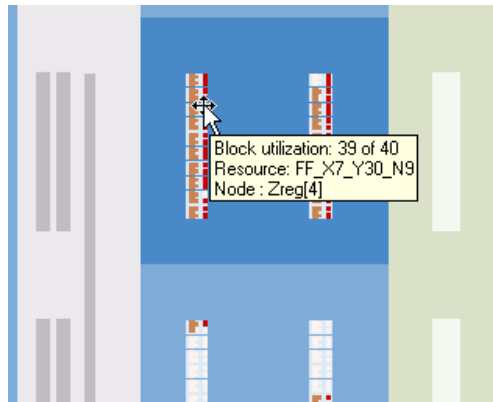

Figure 23: A portion of the expanded view.
6. A Zoom Tool, activated by the icon , can be used to enlarge parts of the image even more. Figure 23 shows a zoomed-in view of the floorplan that highlights the implemented circuit. By positioning the cursor on any logic element the designer can see what part of the circuit is implemented in this resource. The chip planner tool has several icons that can be used to view aspects such as fanin and fanout of nodes, connecting paths between nodes, and so on. For more information on using this tool refer to the online help, by selecting Help > Contents > Achieving Timing Closure > Working With Assignments in the Chip Planner.